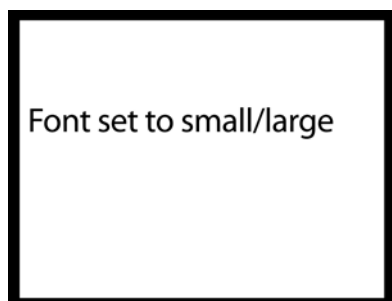

Figure 13: Font Set
4. Once the font size is selected a Font set to small/large window appears (see Figure 13) corresponding to your selection.